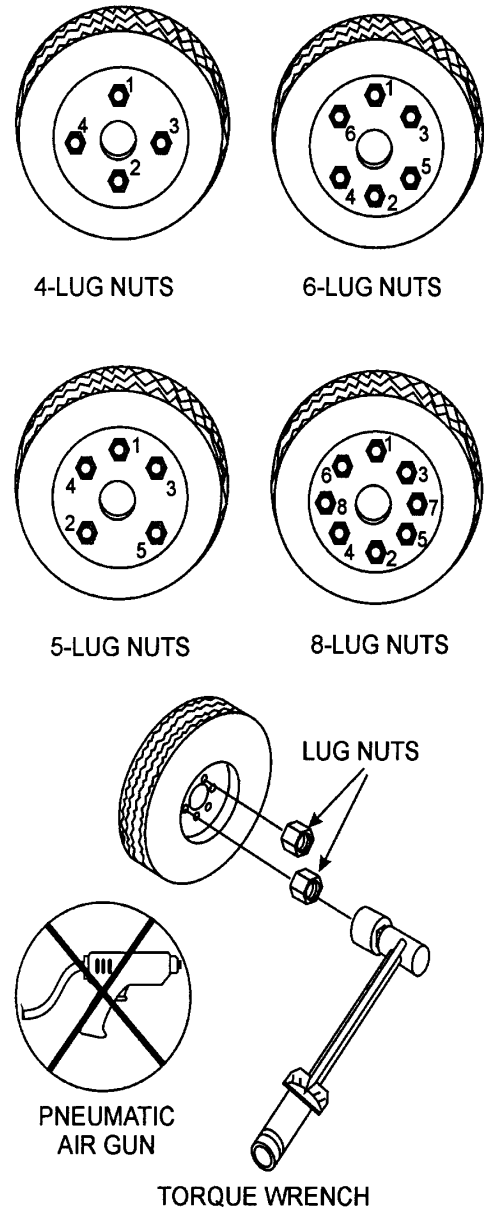

Figure 61. Wheel Lug Nuts Tightening Sequence
2. Torque all lug nuts in sequence (see Figure 61). **DO NOT** torque the wheel lug nuts all the way down. Tighten each lug nut in 3 separate passes as defined by Table 18.